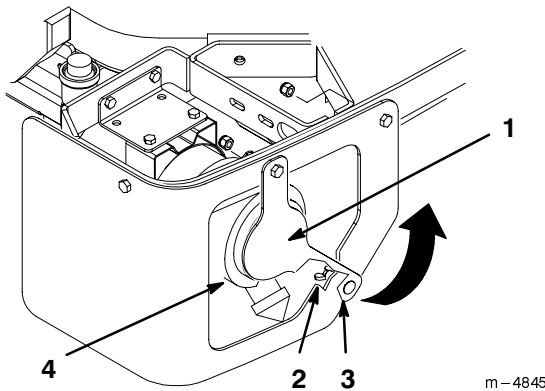

Figure 56
2. Remove the wing nut from the bolt in the air filter guard. Rotate guard to gain access to filter (Fig. 56).